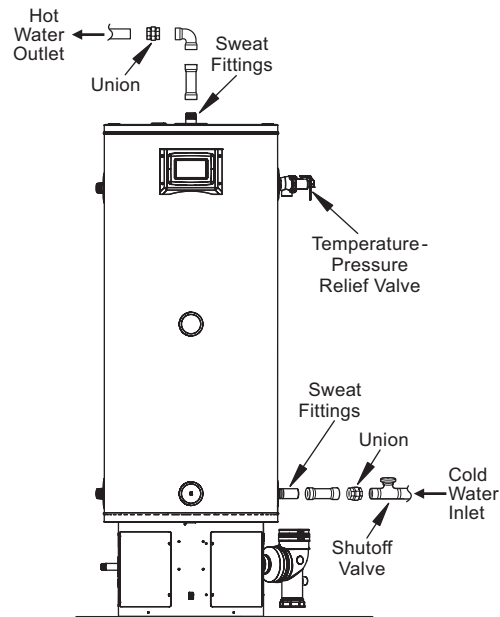

Figure 8
**NOTE:** To protect against untimely corrosion of hot and cold water fittings, it is strongly recommended that di-electric unions or couplings be installed on this water heater (see Figure 8) when connected to copper pipe.
Figure 8 also shows the typical attachment of the water piping to the water heater. The water heater is equipped with 1" NPT